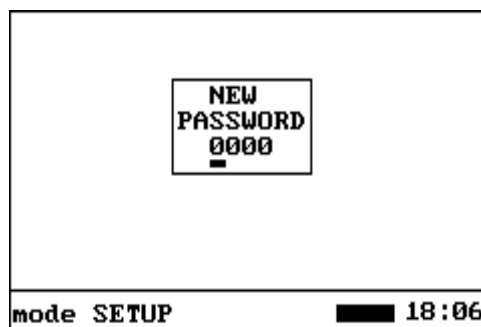

Figure 22. Setting up new password
1.3.3.6.8. Password can be changed into CHANGE PASSWORD submenu (Fig. 22):